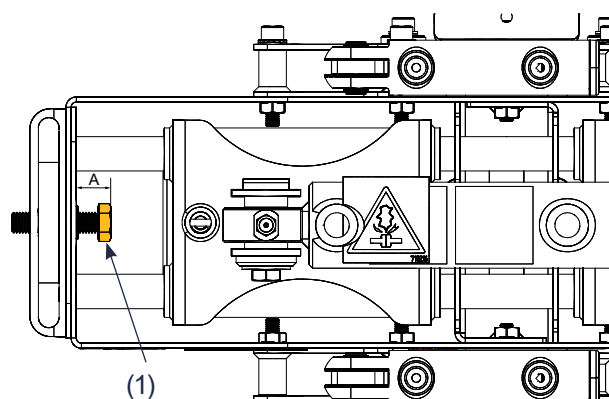

Fig 42.
2. Adjust with the stop screw (1) Fig 42 on each side